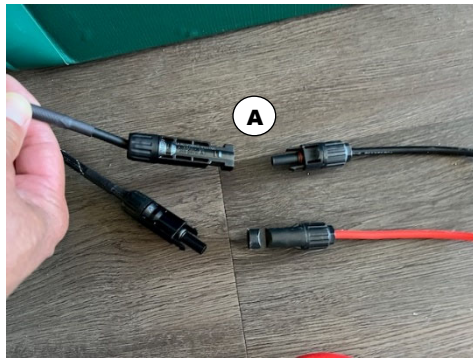

Figure 8 PV Connections
1. The array should be equipped with industry-standard MC4 connectors. Connect these to the matching connectors on the included PV cable. See **A** in Figure 8.
2. Plug the cable's XT60 connector into the matching SunCase 605 port labeled **PV INPUT**. See **B** in Figure 8.